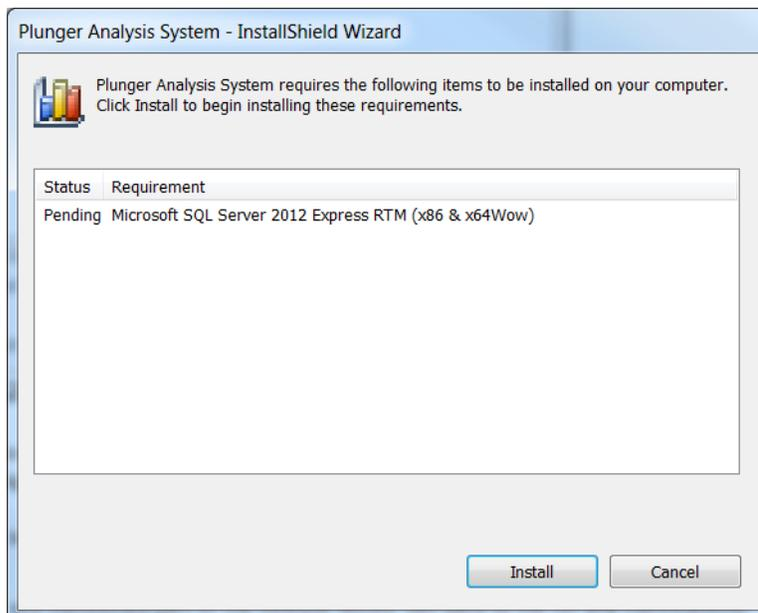

Figure 9: Plunger Analysis System InstallShield Wizard
- 2) Double click **PlungerAnalysisSetup.exe** to begin installation. The Plunger Analysis System InstallShield Wizard displays indicating that the SQL server, a component for PAS, is required (Figure 9).